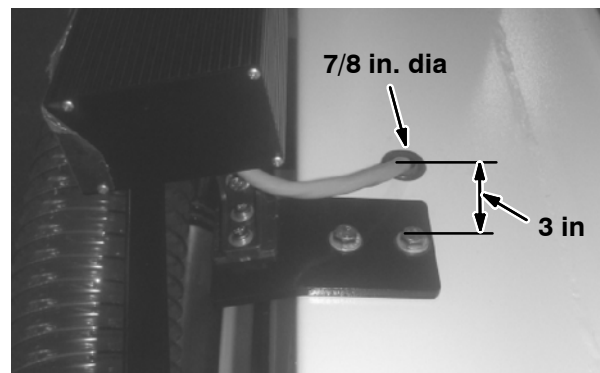

FIG. 11
17. Drill a 7/8 in. hole into the top of the hopper. Refer to Fig. 11.
18. Insert a grommet (5) into the hole drilled in the previous step. Refer to Fig. 11.